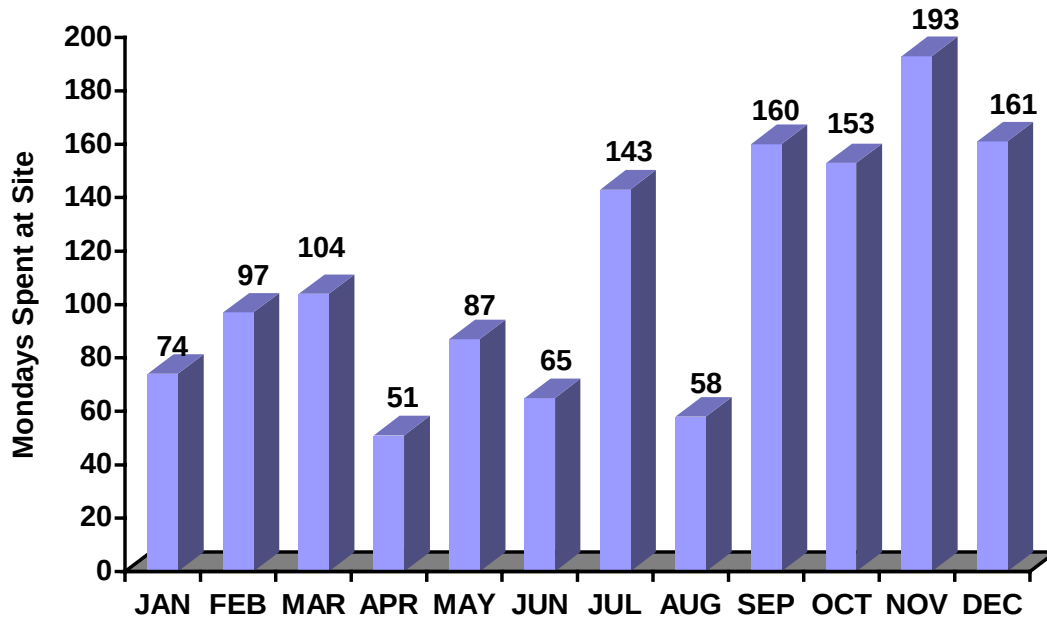

Fig. 2.1
- C-DOT has spent 1364 Mandays at sites for installation and operation support to DOT in 12 months from January 1997 to Dec. 1997. Mandays spent month wise are depicted in Fig. 2.1.